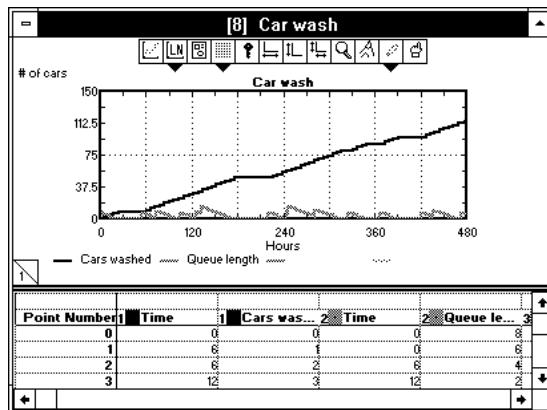

Figure 4: Output of car wash with two bays (Windows)
When you run this simulation, the entry line length stays near 0 most of the time, as shown in Figure 4. If you look at the dialog of the Exit (4) block, you will probably see that one number is larger than the other. Since you have not specified any rules concerning how the cars are routed to a wash bay, a car will go to the first available bay. If both bays are free, the car will arbitrarily go to either wash bay. This could result in cars using one bay more frequently than the other.